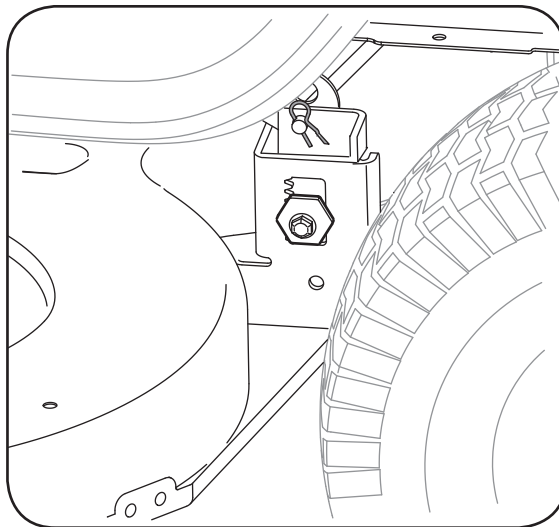

Figure 16
4. Looking at the cutting deck from the left side of the tractor, locate the hair pin clip that secures the deck support rod on the rear left side of the deck. See Figure 16.